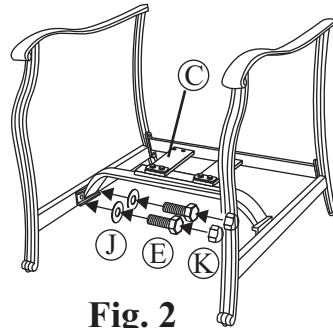

Fig. 2
Step 3: Attach the support bar to the chair legs by using the 1/4"x20 mm bolts and washers as shown in Fig.2. Guide these bolts through the holes in the support bar, into the pre-drilled holes in the chair legs. **Hand tighten only.**